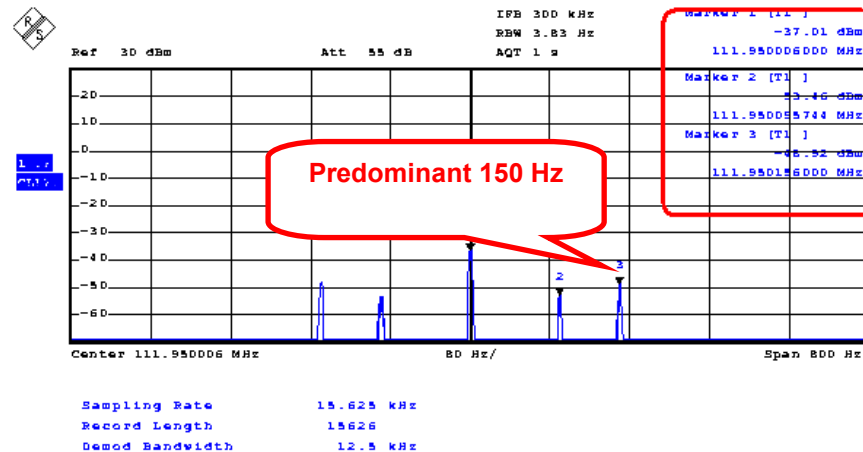

Figure 27: R&S®FS-K7 analog demodulation: ILS RF spectrum with carrier and predominant 150 Hz
The R&S®FS-K7 analog demodulation option allows for RF spectrum analysis inclusive of the carrier. The harmonic suppression can also be viewed. Figure 27 shows a view of the predominant 150 Hz and the DELTA markers corresponding to their AM depth. The R&S®FS-K7 analog demodulation can also be used to demodulate the AM-modulated marker beacon (MB) signals (see Figure 20).